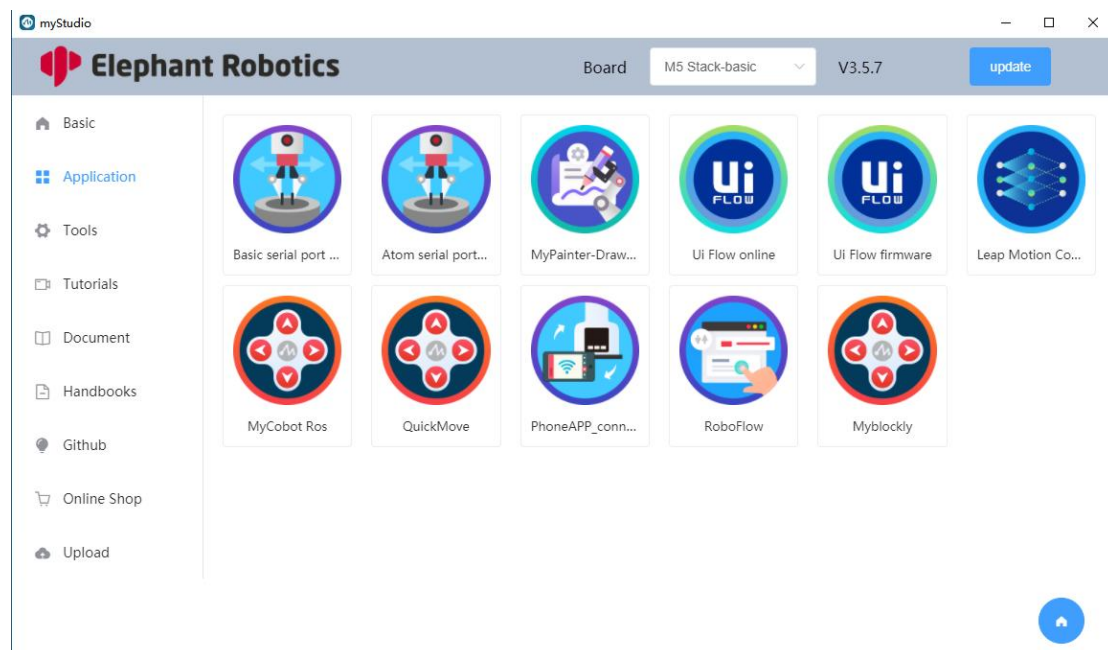

Figure 3.4 Main page
2、After logging in, you will enter the main page of the system, as shown in Figure 3.4.